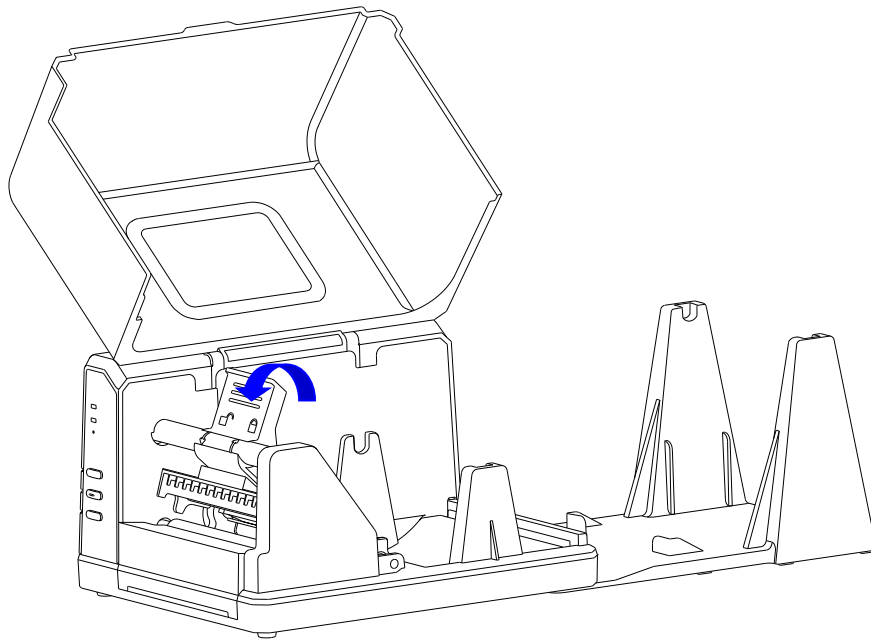

Figure 2-9 Lift the Handle
2. Lift the right cover of the printer and lift the Handle of the Printhead. See Figure 2-9.